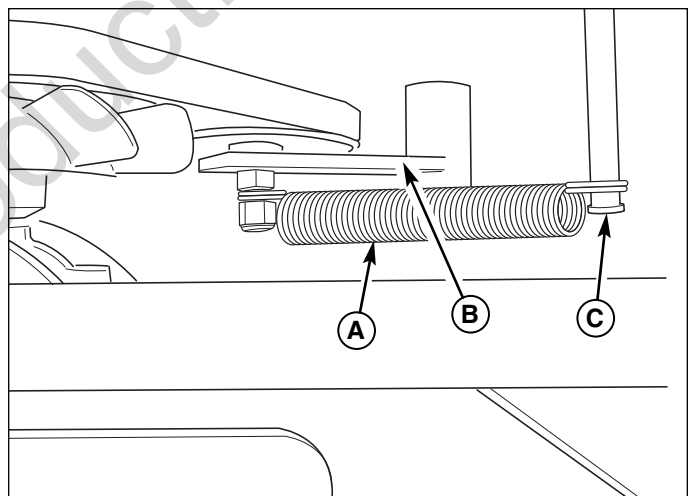

Figure 17. Transaxle Drive Belt
4. With a steel coat hanger, form a small hook. Insert the coat hanger through the opening in the right-hand side of the engine deck. Use the coat hanger to remove the spring (A, Figure 17) from the anchor pin (C).